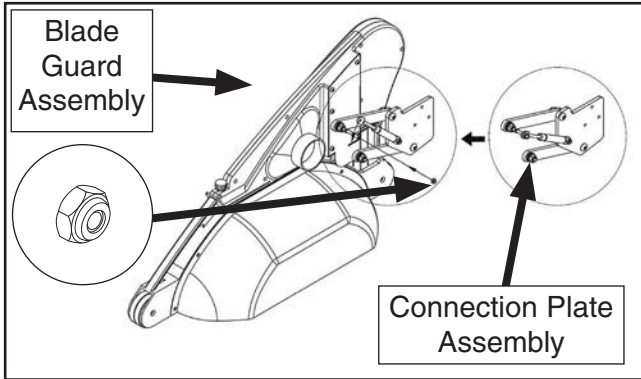

Figure 57. Installing blade guard connection plate assembly onto blade guard assembly.
57. Attach connection plate assembly to blade guard using (2) M6-1 lock nuts (see **Figure 57**).